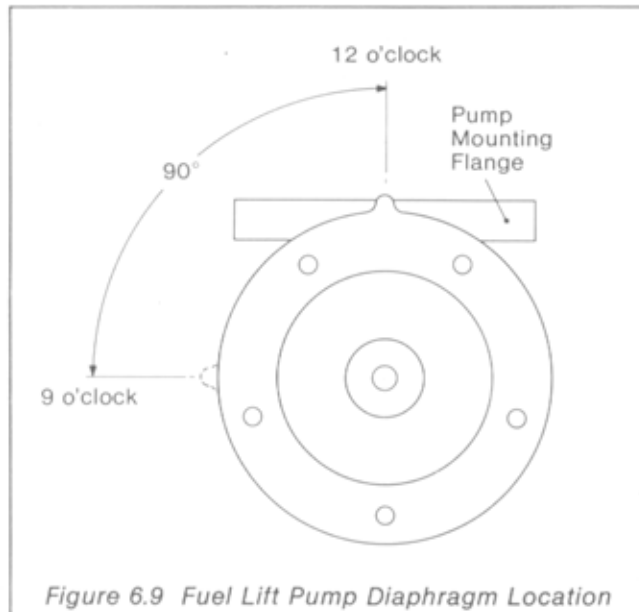

Figure 6.9 Fuel Lift Pump Diaphragm Location
- (1) With reference to Figure 6.9 place the diaphragm and pull rod assembly over the spring with the locating tab in the 12 O'clock position. Press down on the diaphragm against the spring pressure and turn counter clockwise through 90°. This allows the pull rod to engage in the fork of the linkage. The tab should now be in the 9 O'clock position.
- (3) Assemble the two halves of the pump ensuring that they are in their original positions as marked (Paragraph 6.34(1)).